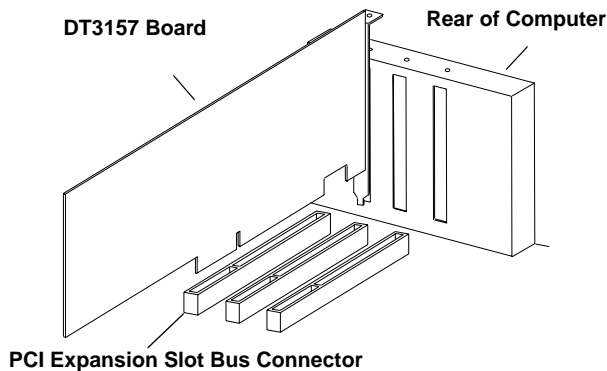

Figure 2: Inserting the DT3157 Board in the Computer
4. Position the board so that the cable connectors are facing the rear of the computer, as shown in Figure 2.